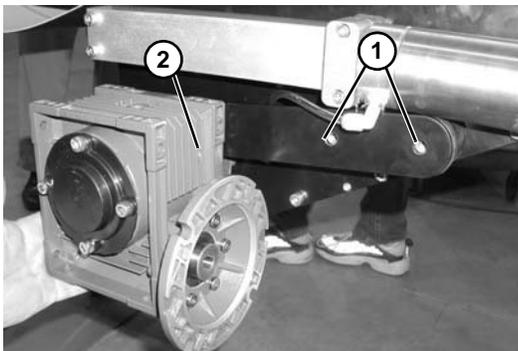
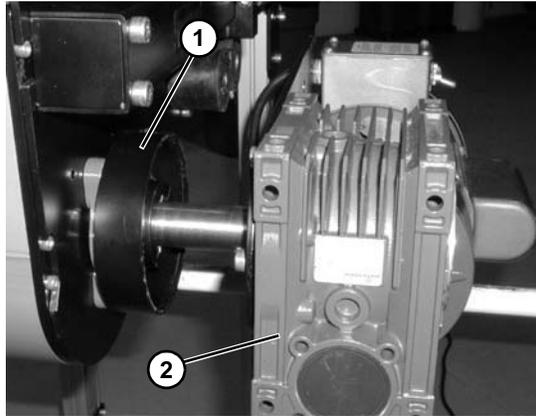

Figure 86
Figure 90
2. Remove screws (Figure 86, item 1) and remove gearmotor (Figure 86, item 2) (gearhead shown with motor removed for clarity, motor can remain attached to gearhead).
9. Reinstall spacer ring (**Figure 90, item 1**) and gearmotor (**Figure 90, item 2**). Tighten screws (**Figure 86, item 1**) to 150 in-lbs (17 N-m).